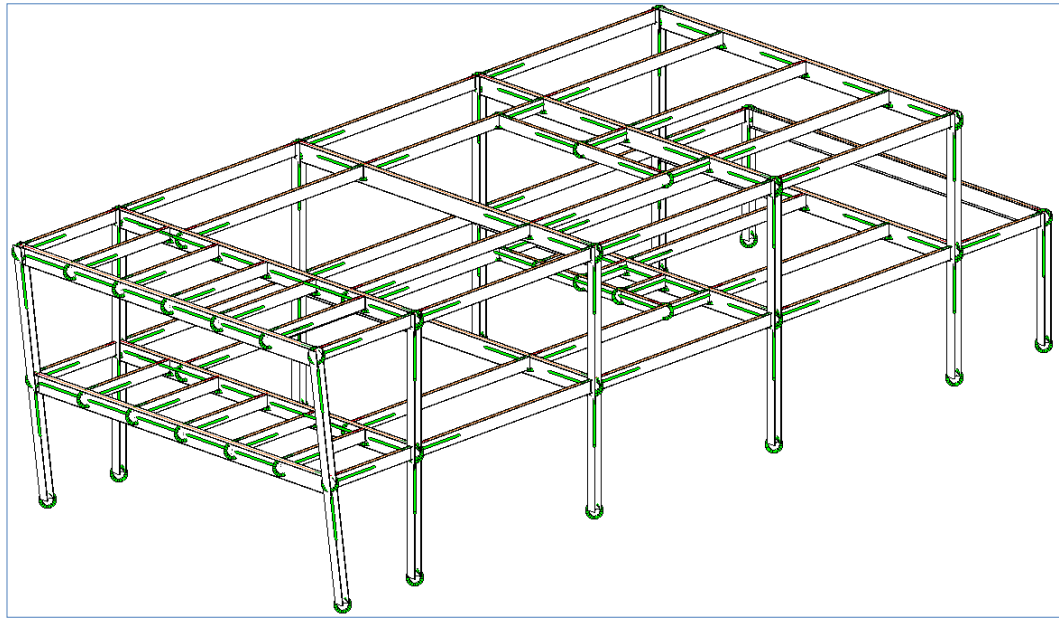

FIGURE 36: CONNECTION ELEMENTS DISPLAYED AS SYMBOLS
4. Notice that only the connection symbols are displayed in the model, as shown in Figure 36. However, the connection elements are still not displayed. This is because to display the connection elements, you need to change the **Detail Level** to **Fine**.